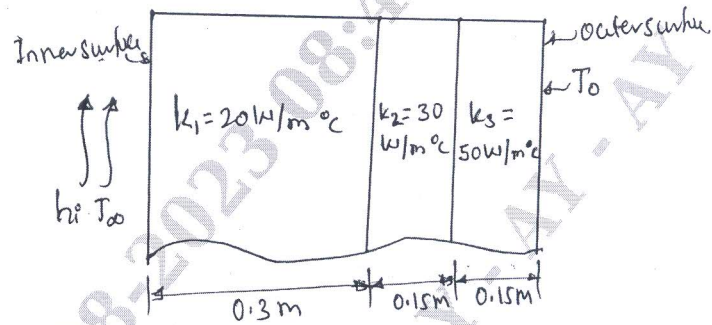

Fig.Q.8
- 8 A composite wall as shown in Fig.Q.8(a) consists of three materials. The outer temp. $T_0 = 20^\circ\text{C}$, Convective heat transfer takes place on the inner surface of the wall with $T_\infty = 800^\circ\text{C}$. The convective heat transfer coefficients $h_i = 25\text{W/m}^2\text{C}$. Determine the temp distribution in the wall. Take $A = 1\text{m}^2$. Use penalty approach of boundary handling conditions. (20 Marks)